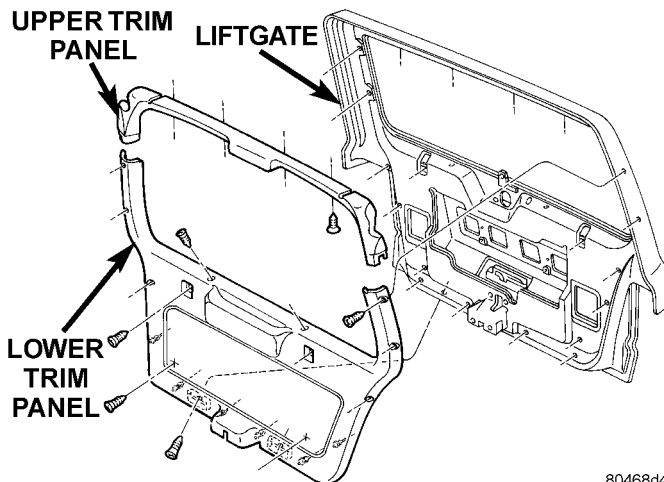

Fig. 6 Liftgate Trim Panel Remove/Install
(1) Disconnect and isolate the battery negative cable.
(2) Open the liftgate.
(3) Remove the screws that secure the liftgate lower trim panel to the liftgate inner panel (Fig. 6).
(4) Using a trim stick or another suitable wide flat-bladed tool, gently pry the perimeter edges of the trim panel away from the liftgate inner panel to release the retainers.